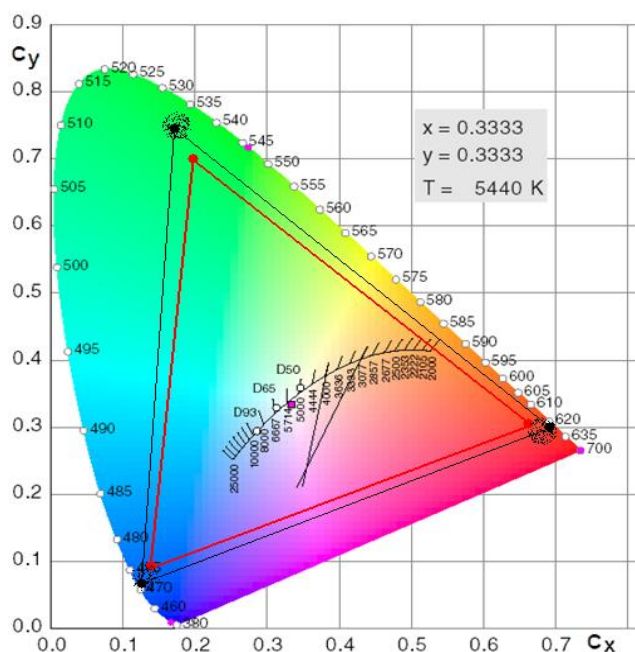

Fig.9-8 Gamut of A LED Display Before and After Calibration
- ✧ **Brightness and color calibration:** Brightness and color calibration is based on the theory of RGB color match. It adjusts the coordinates of LED lights in the RGB color coordinate system to reduce the color diversity. As shown in Fig.9-8, the large triangle is the gamut of a LED display before calibration, while the small one is the gamut of same LED display after calibration. The R, G and B color coordinates of LED lights scatter in relative large areas when before corrected while those after calibration are concentrated, which represents high color uniformity.